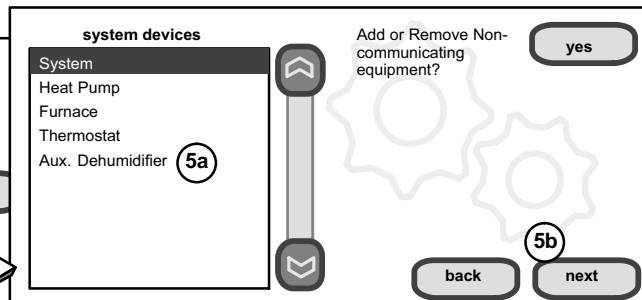

**Figure 9. Add or remove non-communicating device—DEHUMIDIFIER**
**Adding Dehumidifier**—The procedures in figure 9 describe adding a non-communicating dehumidifier controlled by the Comfort Sync™ thermostat through the “DH” output on the furnace or air handler.